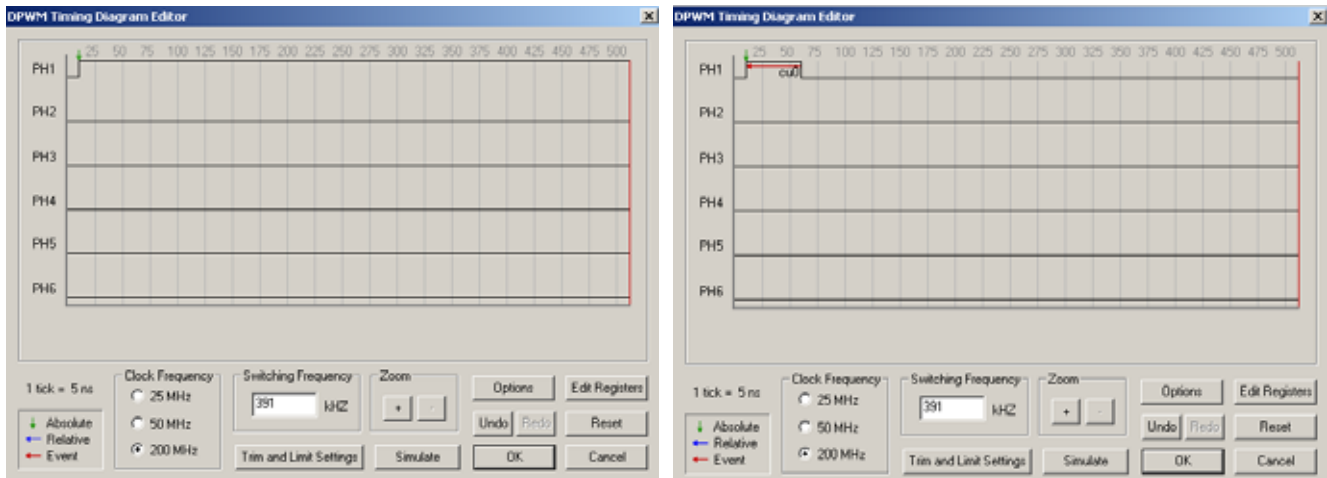

Figure 9. DPWM Timing Diagram Editor—Phase 1
2. To create an absolute edge on Phase 1, hold the mouse above the Phase 1 zero timing line (default) at time tick 10. Then, either double click with the left mouse button or right-click at that point and select **Absolute Edge**. An absolute edge at time tick 10 will be created (see Figure 9).
3. To finish the timing for Phase 1, specify hardware modulation using (**Cu0**). This event edge will be modulated relative to its absolute edge at time tick 10. To create this edge, hold the mouse above the Phase 1 timing line to the right of time tick 10 at time tick 60. Either double-click or right-click at that point and select **Event (Cu0) Edge**. Next, select the edge to reference by clicking on edge 1 in Phase 1. A relative falling (Cu0) edge will be created at time tick 60 since $u(n)$ defaults to 50 (see Figure 9).